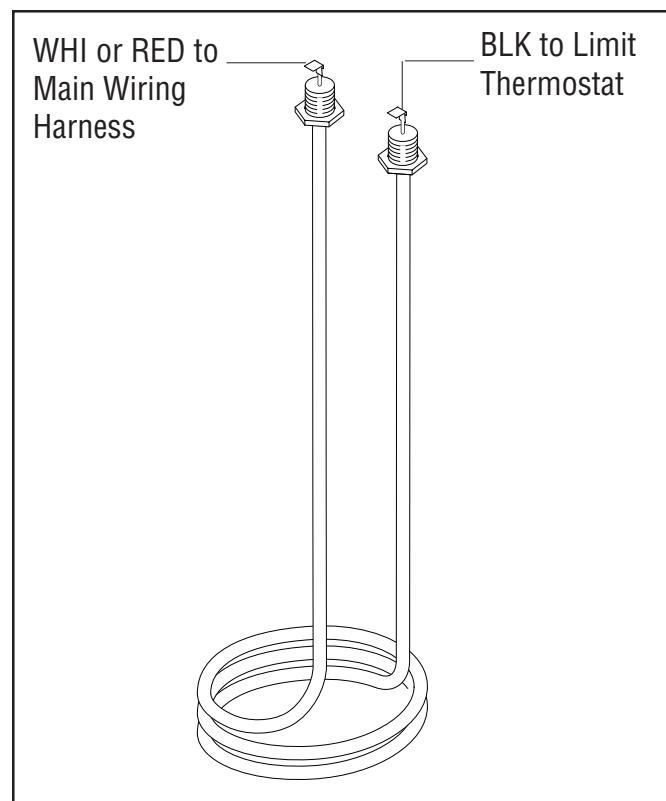

FIG. 33 TANK HEATER TERMINALS
15. Refer to Fig. 33 when reconnecting the wires to the tank heater.